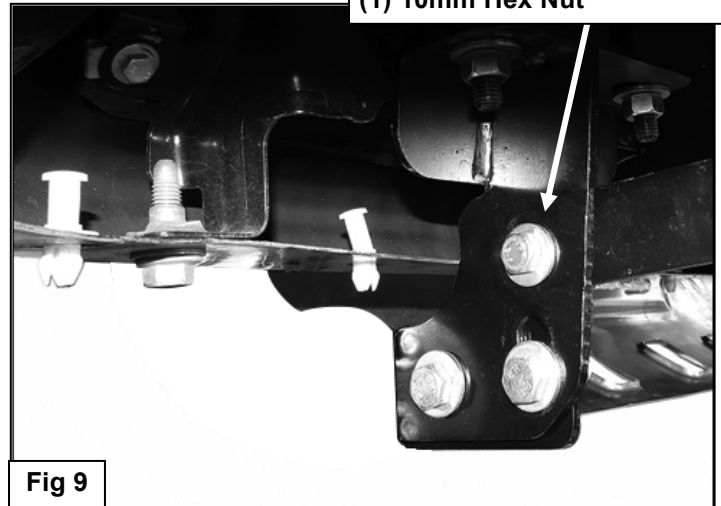

Fig 9
4. Next, select Drives side bull bar Bracket, Bolt the Bracket to the end of the Bull Bar (**Figure 8**) with (2) Bolt Assembly's, (**Figure 9**). Leave hardware loose at this time. Repeat this **Step** to install the passenger side Bull Bar Bracket.
5. With help, position the Bull Bar with Bull Bar Brackets up to the inside of the Mounting Brackets. Use the included (4) 12-1.75mm x 35mm Hex Bolts, (8) 12mm Flat Washers, (4) 12mm Lock Washers and (4) 12mm Hex Nuts to attach the Bull Bar Brackets to the Mounting Brackets, (Figures 9 & 10). NOTE: On vehicles with tow hooks, insert the 12mm rear Hex Bolt through the rear hole in the Mounting Bracket, the Bull Bar Bracket in the middle and out through the flat end of the Support Bracket, (Figure 7). Do not tighten hardware at this time.